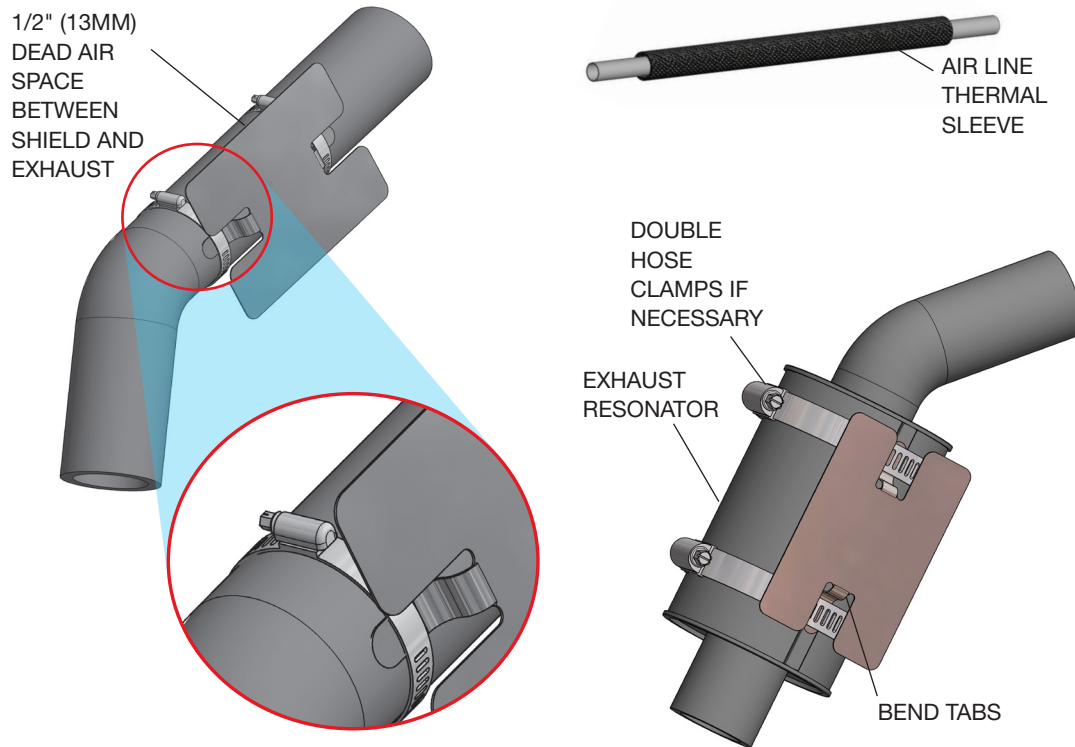

Fig. 23
1. Attach the metal heat shield to the exhaust where it is closest to the air spring. Slide the air line thermal sleeve over the air line and place it where the air line is closest to the exhaust (Fig. 23).